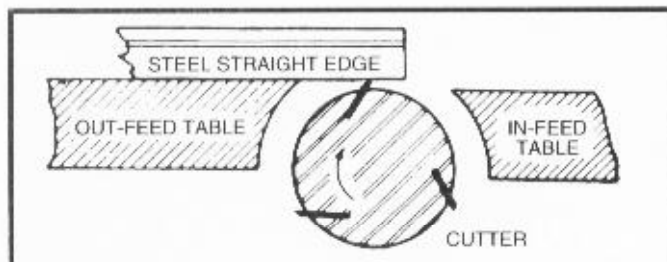

Fig. 18
3. Place a steel straight edge on the out-feed table, extending over the cutterhead as shown in Fig 18.